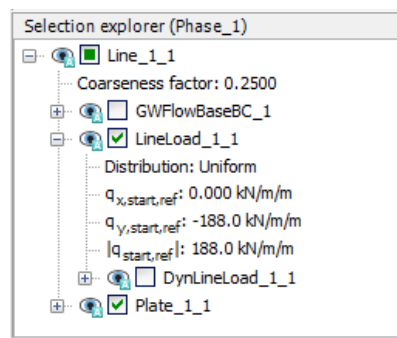

Figure 1-25: Definition of the load components in the Selection explorer
- 6 In the **Selection explorer** shown in Figure 1-25 \(p. 35\) assign -188 kN/m^2 to the vertical component of the line load. Note that, this gives a total load that is approximately equal to the footing force that was obtained from the first part of this tutorial. ($188 \text{ kN/m}^2 \cdot \pi \cdot (1.0 \text{ m})^2 \approx 590 \text{ kN}$).